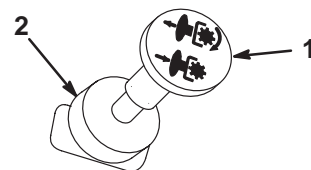

Figure 8
3. Pull out on the PTO switch to engage it (Fig. 8).
Push the PTO switch to Off (Fig. 8).